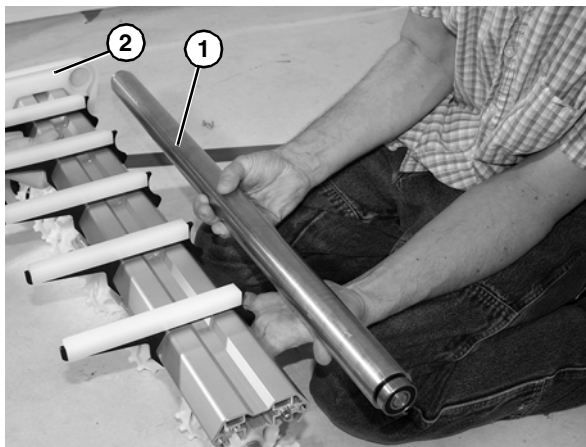

Figure 60
13. Remove shaft assembly (Figure 60, item 1) from end plate (Figure 60, item 2).